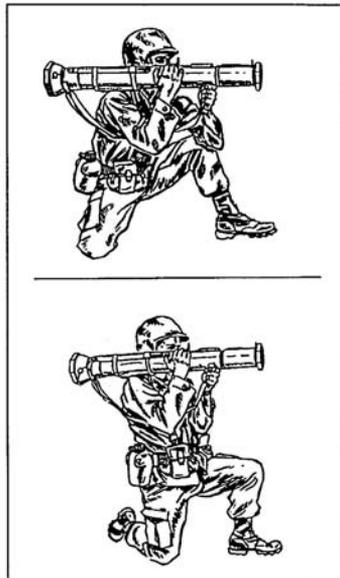

Figure 071-054-0004-2. First and second kneeling positions
- (3) The sitting position with two variations (figure 071-054-0004-3).